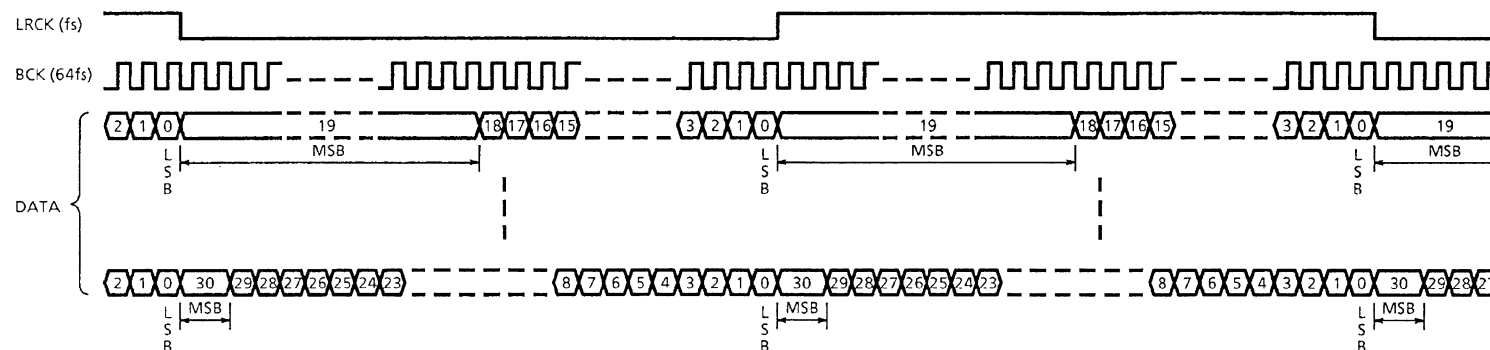
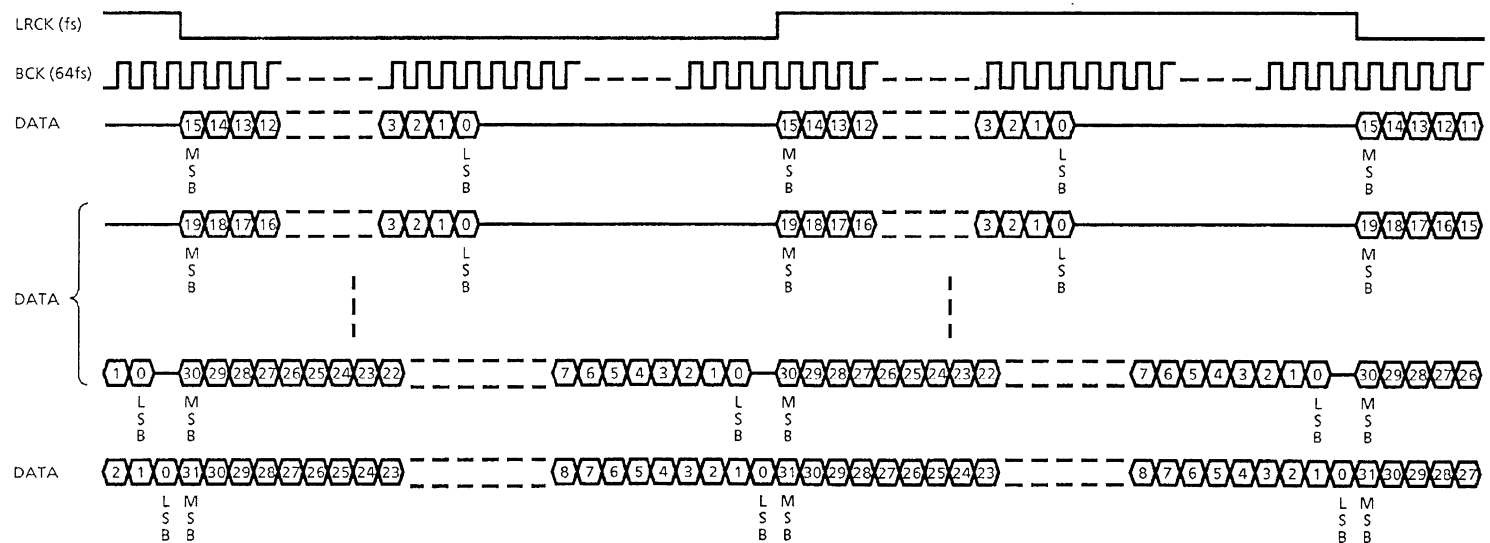

Figure 4 (c) Serial data input timing (32 bit)
Figure 5 Serial data input timing (32 bit)
- When the input data is at least 17 bit but not more than 32 bit, refer to Figures 4 (b) and 4 (c). The input register should be set up for 32 bit processing. As shown in Figures 4 (b) and 4 (c), data is put into the padding and the priority bit modified before inputting. In order to input data before it is put into the padding, the input register must be set for 32 bit and, as shown in Figure 5, the remaining data must be reset to "zero".